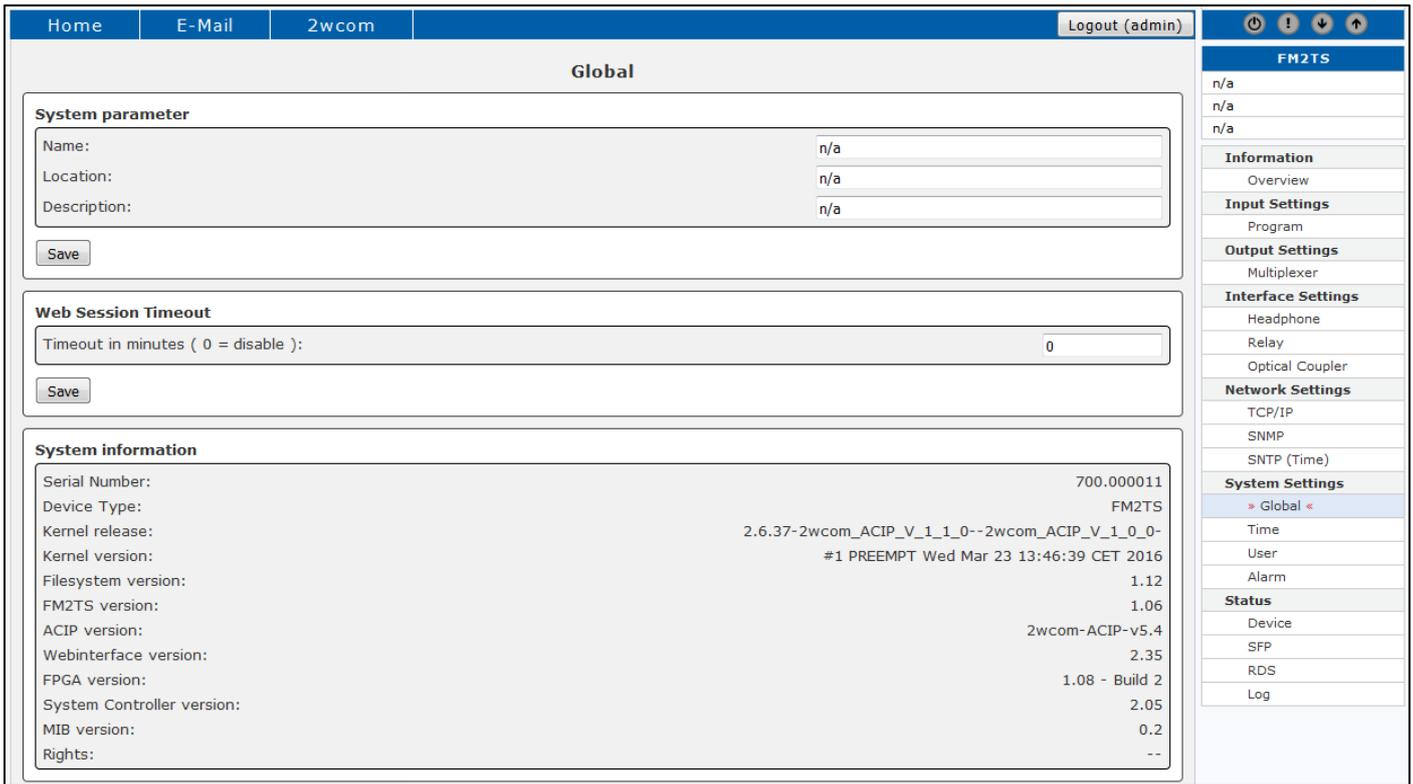

Figure 27: Global System Settings – System Information
2. You can find the device data in the "System information" field (see Figure 27).